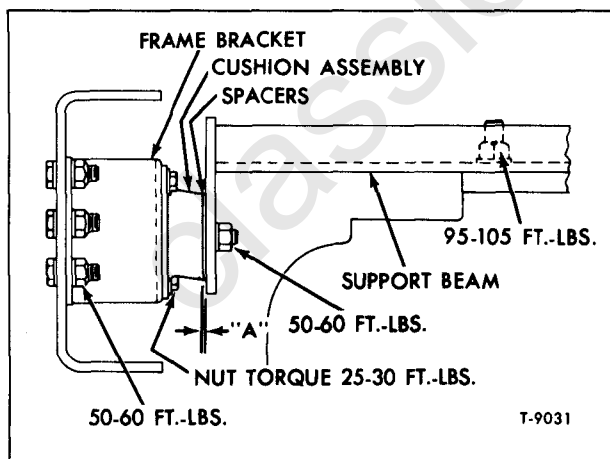

Figure 1—Shear Type Transmission Mounting
NOTE: Truck Models HH, HC, JH, JC90 and also DB90 with Fuller RTO9513 transmission are equipped with Shear-Type transmission rear mounts as shown in figure 1. When replacing transmission, use procedure described in ST135-70, pages 7-20 and 7-21. Install transmission rear mount as described following:
3. Insert spacers between cushion assembly and support beam. Install all attaching parts as shown in figure 1. Be sure all attaching parts are properly torqued.